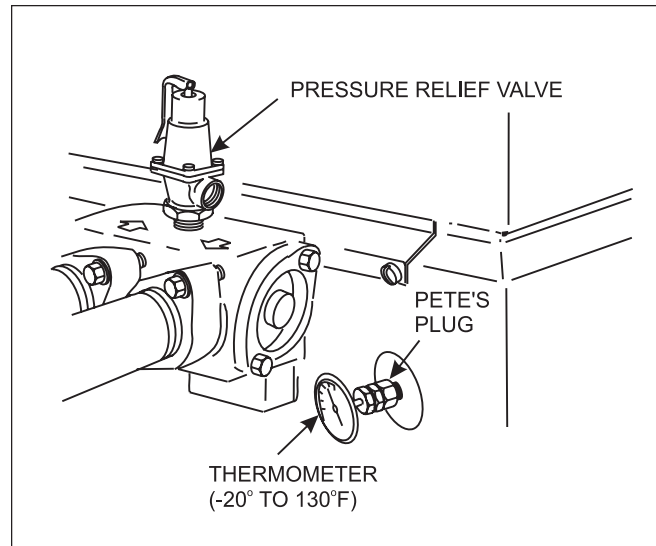

Figure 15. Thermometer and pressure relief valve.
1. Remove the 3/4 inch (19 mm) brass plug located on the top of the inlet/outlet header (see Figure 15).